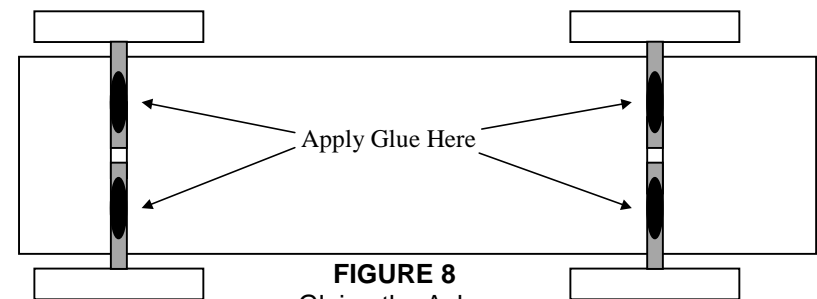

FIGURE 8
6. Axle Slots Only - To keep the axles from becoming misaligned during the race, place glue in the axle slots on top of the axles (see Figure 8). Use epoxy, hot glue, white glue, or a similar product. ***Keep the glue away from the wheels!*** Remove excess glue, making sure that the glue does not hang down below the car, reducing the clearance to less than 3/8". Set the car on its back to dry for 24 hours.